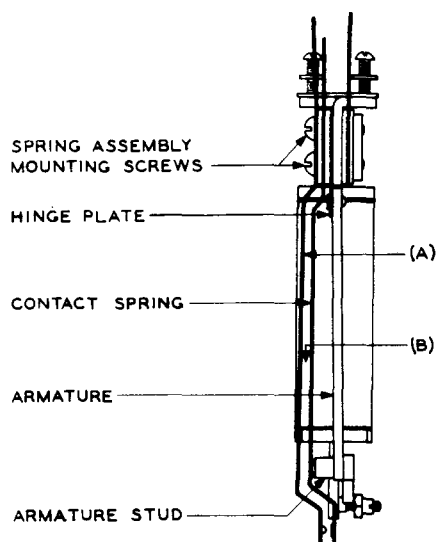

Fig. 9 - A-type Relay - Top View
- 2.12 Straightness of Springs: Fig. 9(A) - All springs, from the point where they leave the assembly clamping plates and insulators, to the ends of the springs, shall be free of sharp bends or kinks due to adjustment, but a gradual bow in the springs is permissible.
- 2.13 Separation Between Springs: Fig. 9(B) - There shall be a clearance between adjacent springs whether in the operated or unoperated positions of the relay of: